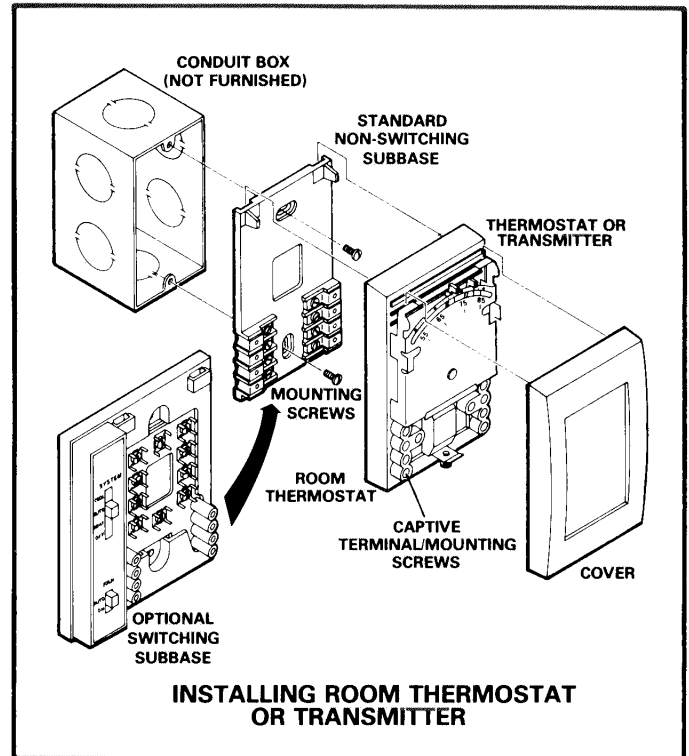

FIGURE 8
- 7 - The room thermostat mounts on a standard 2 x 4 inch handy box as shown in Figure 8. Locate thermostat approximately 5 feet above floor in an area with good air circulation at average temperature.
- 3 - The transmitter also mounts on a 2 x 4 inch handy box as shown in Figure 8. If an optional switching subbase is used, identify the 2 low voltage AC wires at transmitter. These wires connect to fan switch option and wire to subbase terminals 9 and 10.